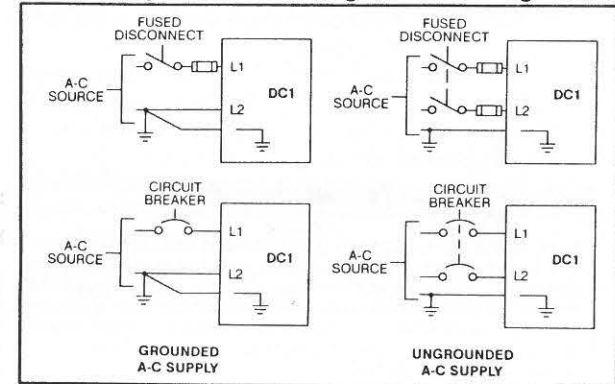

Figure 2. Fused Disconnect or Circuit Breaker.
1. Provide a fused disconnect or circuit breaker in the incoming A-C line according to NEC. See Figure 2.